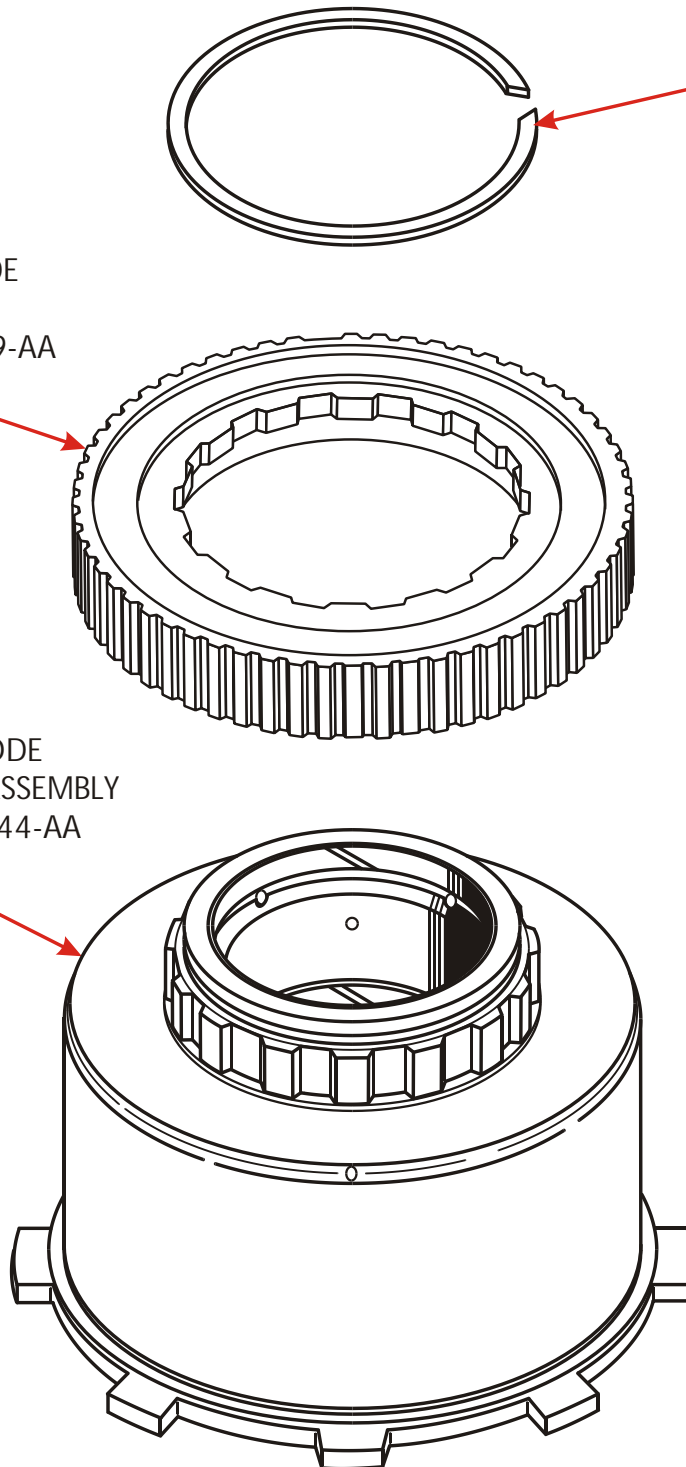

Figure 2
- (3) RETAINING RING - No dimensional changes on the snap ring, you still use the original snap ring. When installed, the mechanical diode assembly may move back and forth approximately .010" and this is normal (See Figure 2).